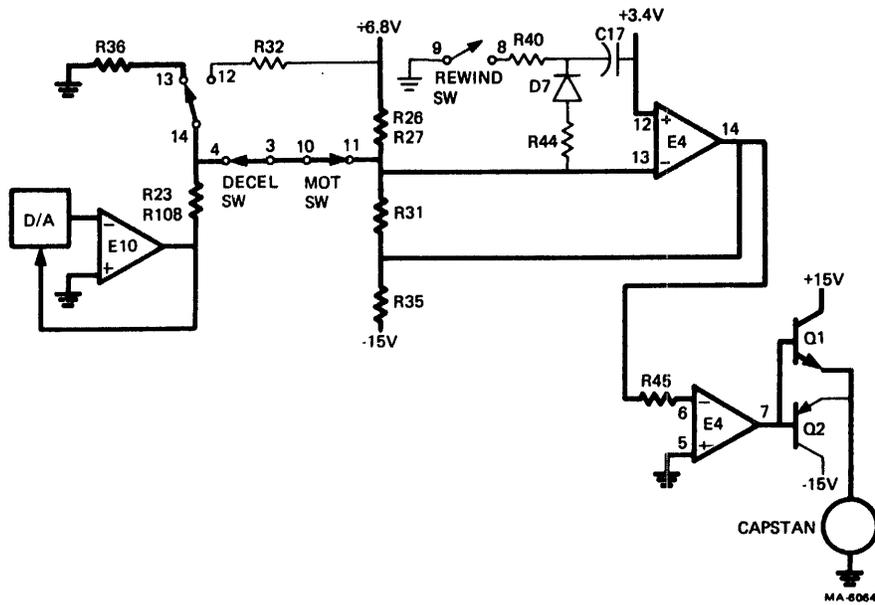

Figure 6-18 Reverse - Capstan Drive
6.5.3.3.3 Reverse (Figure 6-18) - When the capstan rotates reverse the switch operation is the same as in the forward direction except that CS3 REV CAPST DR activates the BIAS SW closing pin 13 to 14. Bias through the BIAS SW is now closer to ground, causing E4 (pin 14) to operate in the less positive portion of its range. E4 (pin 7) increases the forward bias on Q1 and decreases the forward bias on Q2, increasing reverse drive current through the capstan.
6. Refer to Figure 6-18. Although the capstan is turning in the forward direction, the drive circuits are configured for reverse, and the output from E10 (CS4 LADDER OUT) is at maximum reverse drive signal. As a result, Q1 gets maximum forward bias, Q2 gets minimum, drive current reverses, and the capstan begins to slow down.